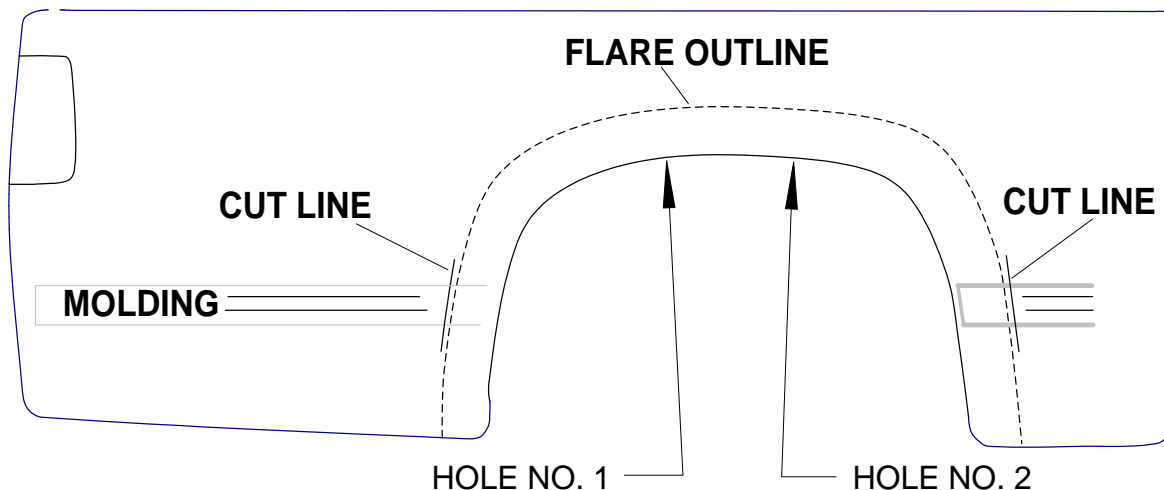

FIGURE 2
3. Trim flare along traced contour line. See FIGURE 2.
- (A) Pre-drill all screw indentations in the flare with a 3/16" drill bit. DO NOT DRILL SHEET METAL WITH 3/16" DRILL BIT.
- (B) Remove fender fasteners from lower front and rear of wheel well. Mark and drill flare using 3/8" bit to match fastener locations.
- (C) Attach edge trim to outside lip of flare.
- (D) Fasten the flare to the vehicle with drill screws using the holes in the flare as a guide. Follow the fastening sequence illustrated in FIGURE 2.